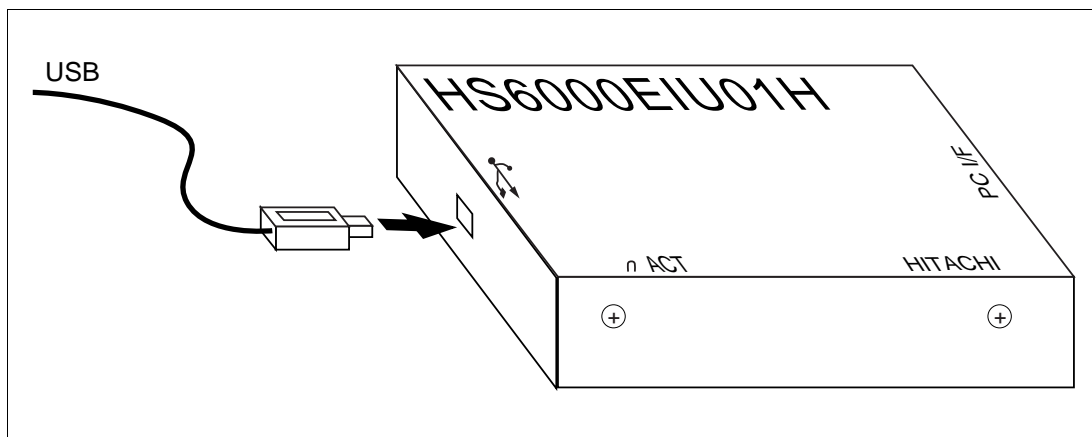

Figure 3 Connecting USB Cable to USB Adapter
(1) Connect the USB cable to the connector marked '  ' as shown in figure 3.